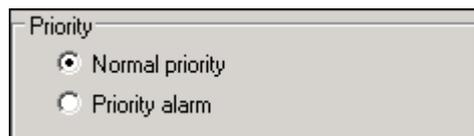

Fig. 53 **Priority** group field on the **Alarm input** tab
3. Select the priority of the alarm input in the **Priority** group field (see "Fig. 53", page 63).